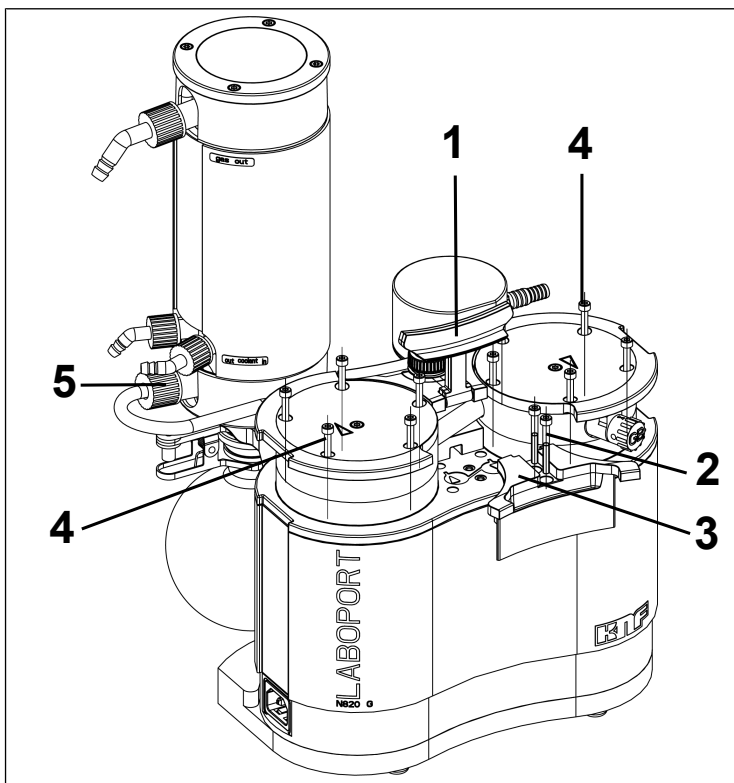

Fig.11: Remove handle cover
2. Remove the union nut of the hose connection (5/ Fig. 11) from the vacuum system components.
3. Put the handle (1/ Fig. 11) into a vertical position.
4. Loosen the two screws (2/ Fig. 11) of the handle cover (3/ Fig. 11).
5. Remove the handle cover (3/ Fig. 11).
6. Loosen the external cap screws (4/ Fig. 11) on both pump heads.
1. Mark the pressure plate (2), head cover (3) and intermediate plate (6) with a continuous pencil stroke. This prevents the parts from being incorrectly mounted later on.
2. Remove the external screws (4/ Fig. 11) of the pump heads.
11. Hand-tighten the union nut of the hose connection (5/Fig. 11) on the high-performance condenser (2/Fig. 2).
1. Mount the handle cover (3/Fig. 11).
2. Tighten the screws (2/Fig. 11) of the handle cover (3/Fig. 11) (tightening torque: 2 Nm).